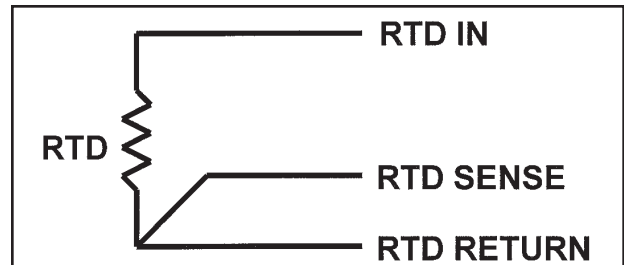

FIGURE 8-3. Three-Wire RTD Configuration.
The analyzer measures temperature using a three-wire RTD. See Figure 8.3. The in and return leads are used to measure the resistance of the RTD. The third lead, called the sense line, is connected to the return lead at the sensor. The sense line allows the analyzer to correct for the resistance of the in and return leads and to compensate for changes in lead resistance caused by changes in ambient temperature.
2. Disconnect the white and white/red sense and return leads and measure the resistance between them. It should be less than 1Ω. See Figure 8.3.
The MCL analyzer accepts a Pt100 RTD. The Pt100 RTD is in a three-wire configuration. See Figure 8-3.